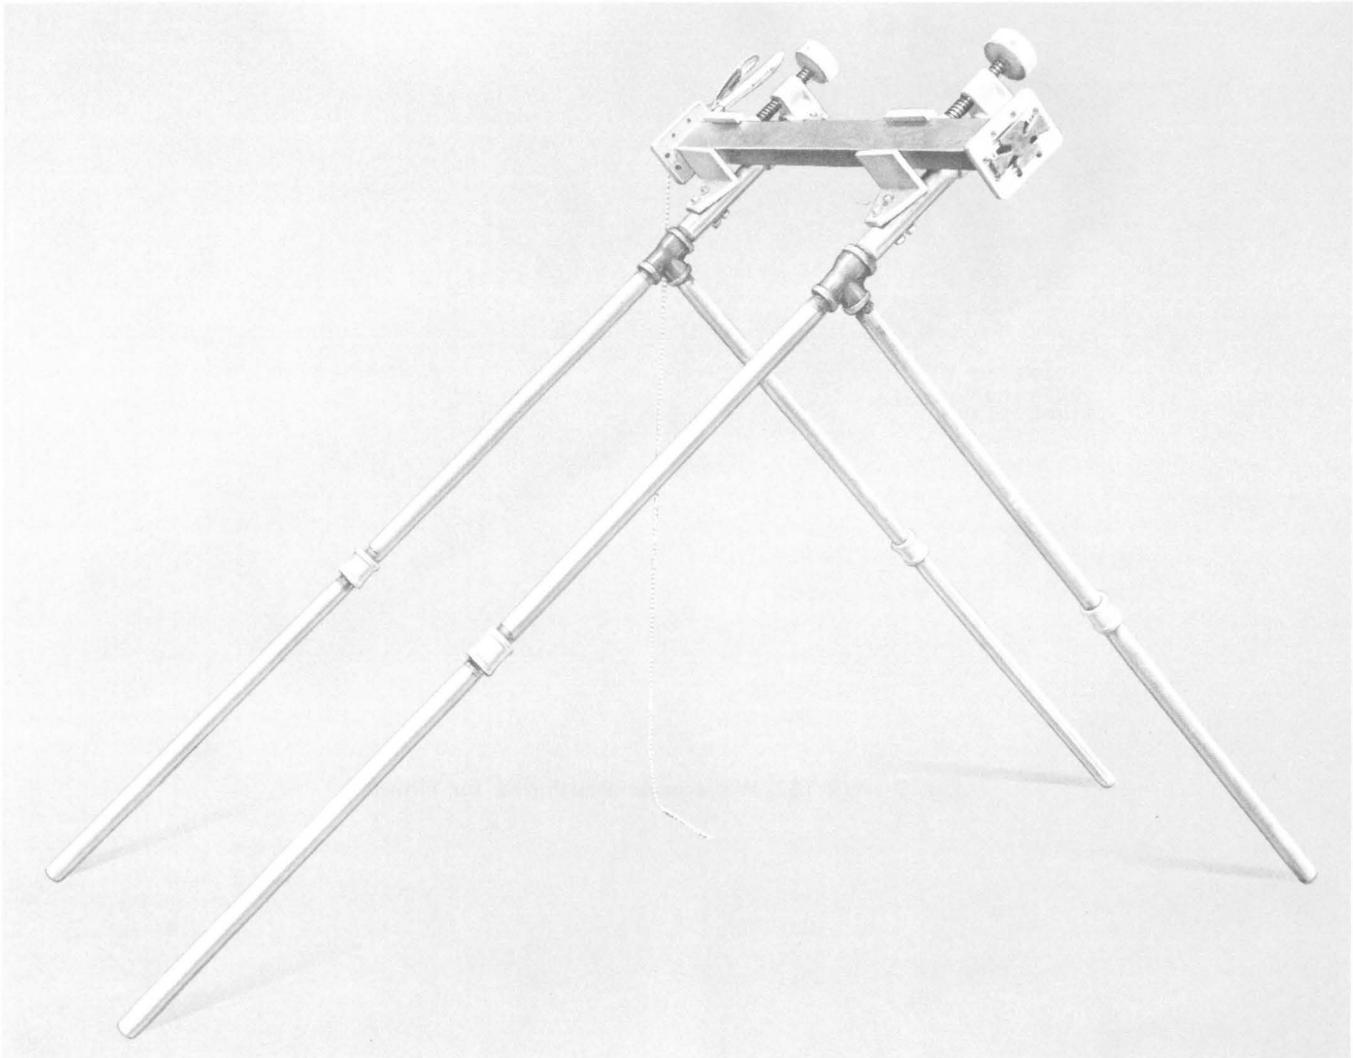

Fig. 10—Method of Supporting Waveguide Section with Clamp Assemblies
4.11 Assemble the components of the clamp assembly, as required, to support the waveguide section at a convenient working height. Two methods of supporting waveguide sections in the clamp assemblies are shown in Fig. 10 and 11. The threaded pipe connections should be only hand tight.